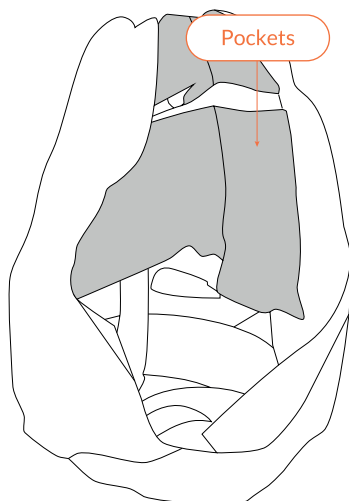
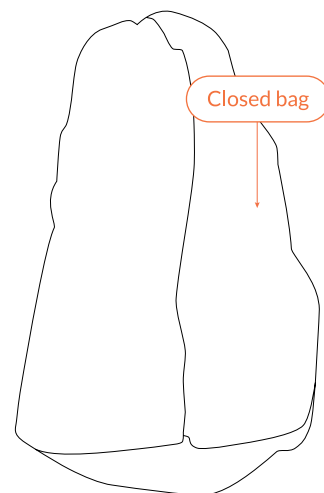

Fig 38 – Tuck the pockets into the bag on top of the Platform
Fig 39 – Close the bag
17. Once the platform is back in the bag, tuck the orange pockets back on top of the platform (Fig 38) and reseal the bag along the Velcro strip (Fig 39).